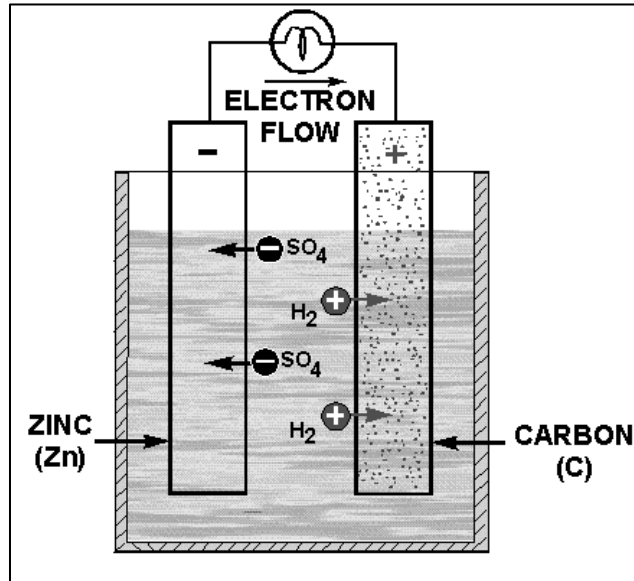

Figure 1: Simple voltaic or galvanic cell.
A cell is a device that transforms chemical energy into electrical energy. The simplest cell, known as either a galvanic or voltaic cell, is shown in Figure 1. It consists of a piece of carbon (C) and a piece of zinc (Zn) suspended in a jar that contains a solution of water (H₂O) and sulfuric acid (H₂SO₄) called the electrolyte.
The current flow through the load is the movement of electrons from the negative electrode of the cell (zinc) and to the positive electrode (carbon). This causes fewer electrons in the zinc and an excess of electrons in the carbon. Figure 1 shows the hydrogen ions (H_2) from the sulfuric acid being attracted to the carbon electrode. Since the hydrogen ions are positively charged, they are attracted to the negative charge on the carbon electrode. This negative charge is caused by the excess of electrons. The zinc electrode has a positive charge because it has lost electrons to the carbon electrode. This positive charge attracts the negative ions (SO_4) from the sulfuric acid. The negative ions combine with the zinc to form zinc sulfate. This action causes the zinc electrode to be eaten away. Zinc sulfate is a grayish-white substance that is sometimes seen on the battery post of an automobile battery.
In Figure 1 you will notice that the zinc electrode is labeled negative and the carbon electrode is labeled positive. This represents the current flow outside the cell from negative to positive.